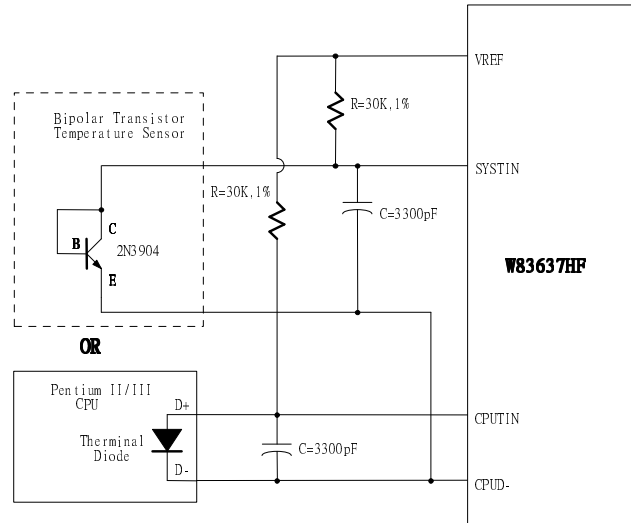

Figure 6.3
The W83637HF can alternate the thermistor to Pentium II™/Pentium III™ thermal diode interface or transistor 2N3904 and the circuit connection is shown as Figure 6.3. The pin of Pentium II™/Pentium III™ D- is connected to pin 111 (CPUD-) and the pin D+ is connected to temperature sensor pin in the W83637HF. The resistor R=30K ohms should be connected to VREF to supply the diode bias current and the bypass capacitor C=3300pF should be added to filter the high frequency noise. The transistor 2N3904 should be connected to a form with a diode, that is, the Base (B) and Collector (C) in the 2N3904 should be tied together to act as a thermal diode.